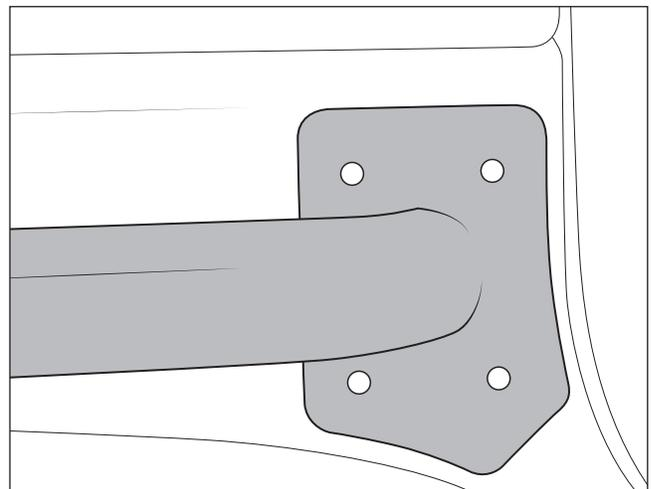

Figure 3
6. Mark the four front Corner Guard Rail mounting holes then remove (fig. 3).